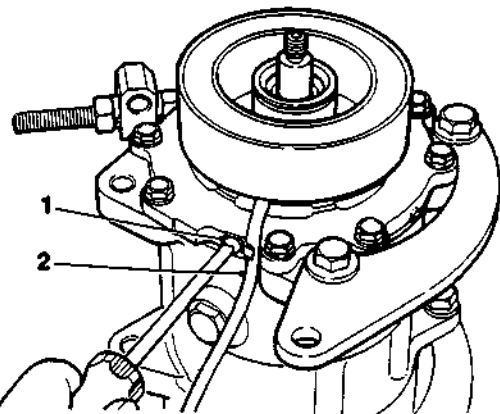

Figure 1.
6. Slacken the field coil wire clamp screw (Fig. 1) and release the wire from the clamp.